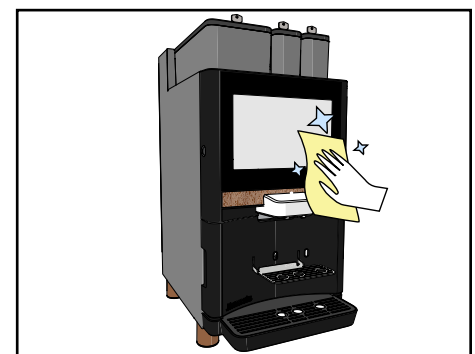

Figure 37.
21. Clean the outside of the machine with a slightly damp cloth (see Figure 37).